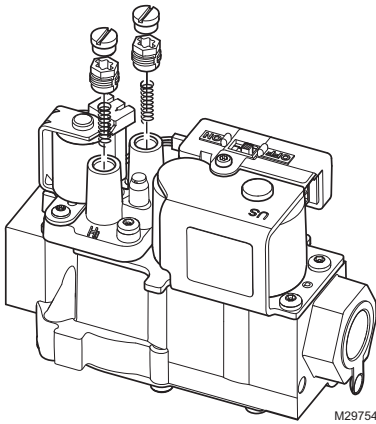

Fig. 2. Gas conversion kit.
4. Insert the replacement Regulator Springs in both towers. Refer to Fig. 2.
5. Install the new plastic pressure regulator adjustment screws to both towers. Refer to Fig. 2.